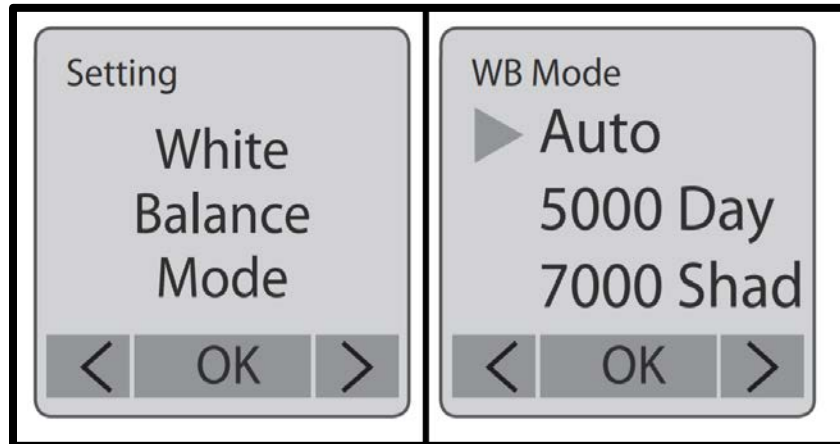

Figure A.11.9: Setting the white balance to “Auto”.
10. Navigate to the “Settings” screen by refollowing step 4. Use the “MENU” and “TIME” buttons to navigate to the “White Balance Mode” option as shown on the left of Figure A.11.9.
- a. The “Auto” option ensures that the color temperature of the lights in the room does not affect the actual colors of the subject being photographed. Make sure that the arrow is pointed at the “Auto” option as shown on the right of Figure A.11.9. If not, use the “MENU” and “TIME” buttons to move the arrow to the “Auto” option, then press “OK” which will take you to the “Settings” option (left of Figure A.11.3).